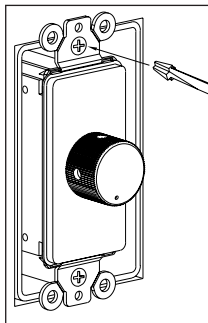

Figure 6
5. Secure the VCS-2D to the electrical box or p-ring. Insert the 1 1/4" long device screws into the oblong-shaped screw holes on the top and bottom of the VCS-2D. Note that the oblong shape of the screw holes allow you to position the VCS-2D so that it is vertical. Position the VCS-2D so that the screws are aligned with the threaded holes in the electrical box or p-ring. Tighten the screws using a phillips screwdriver. **DO NOT OVER-TIGHTEN.** In some instances, you may need to loosen these screws several turns to allow the VCS-2D to fit flush with the Decora cover plate. See (Figure 6).